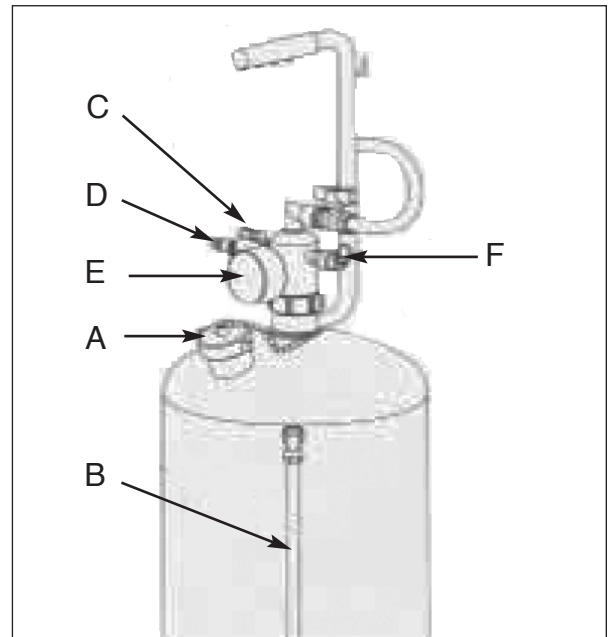

Fig. 3
2. Replace the cap and tighten. (See Fig. 3)
3. Close air valve C. (See Fig. 3)
4. Open valve C to pressurize the tank 45 PSI (Maximum of 80 PSI). Monitor the pressure using the pressure gauge E. (See Fig. 3)